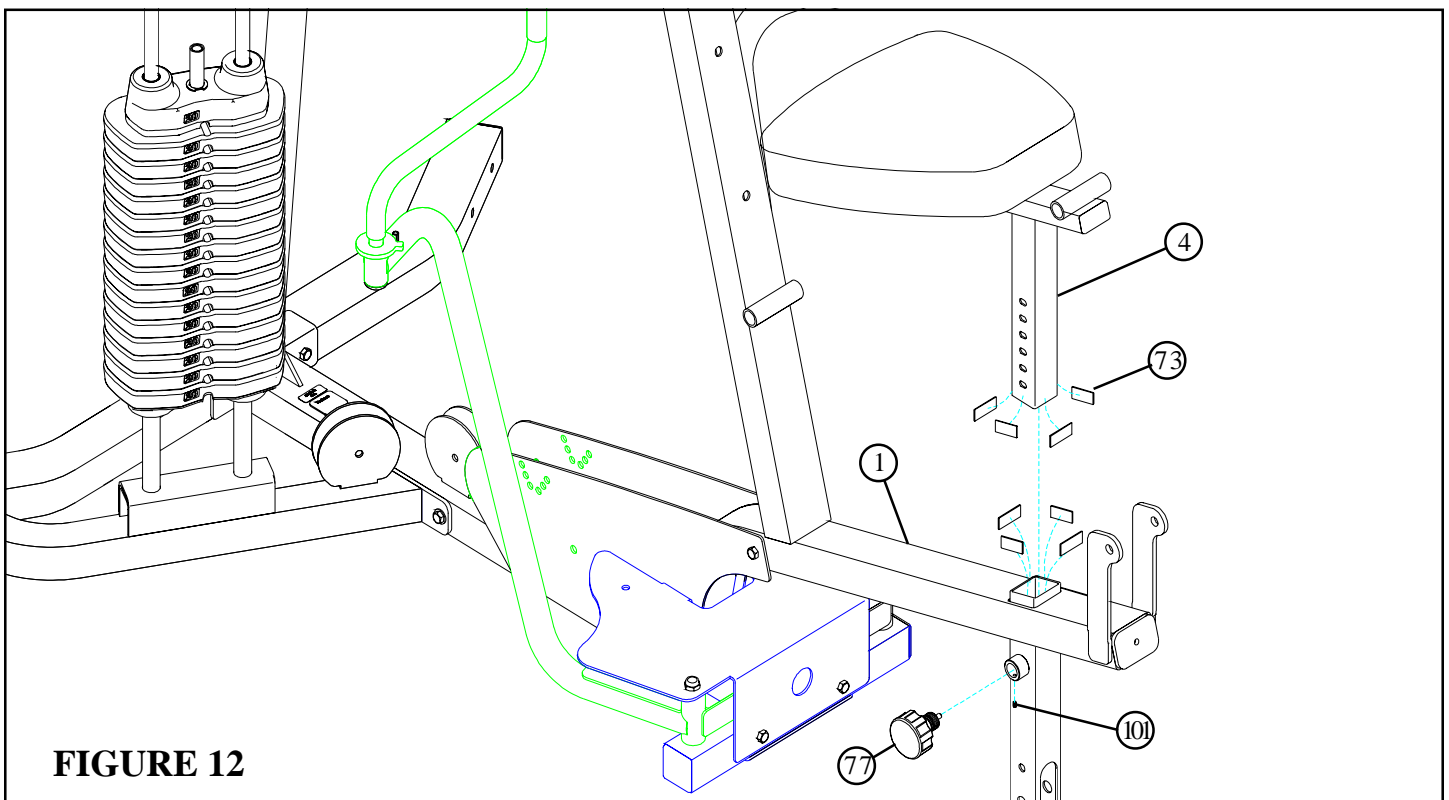

FIGURE 12
- **SECURELY** assemble one PEC STATION PAD (3) to the FRAME (1) using two 3/8 X 2-3/4" BOLTS (90) and two 3/8" WASHERS (80). See FIGURE 12.